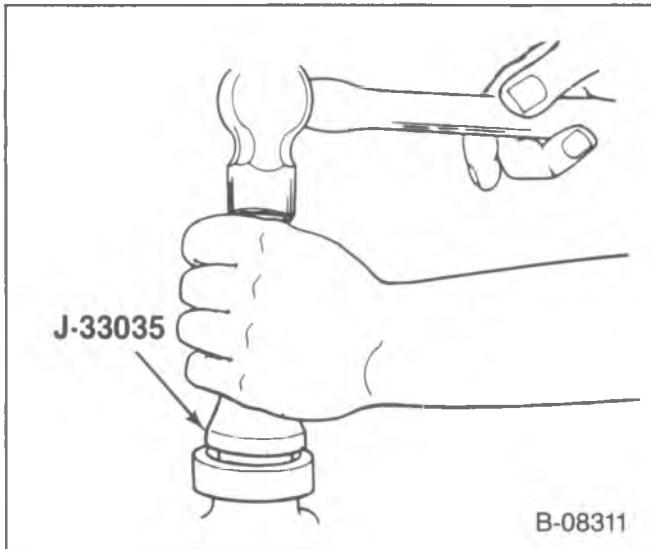

Figure 99—Installing the Extension Housing Seal
1. New bushing (591) if needed.
2. Locking compound on the outside of a new seal (592).
3. New seal (592) using J-33035, (figure 99).